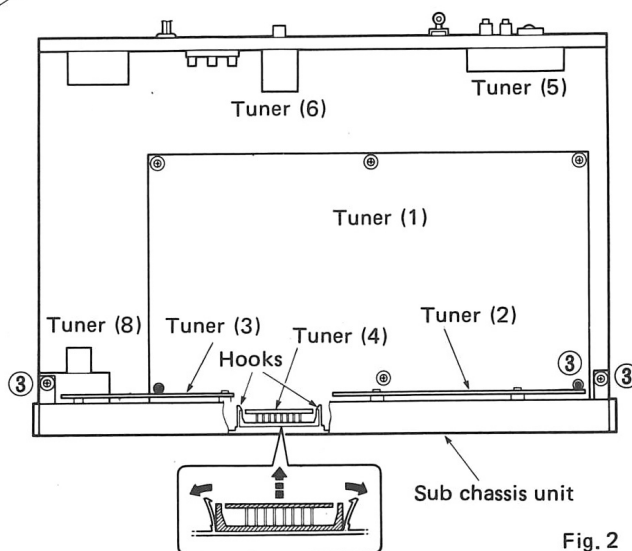

Fig. 2
Remove 2 screws (③) and 1 plastic revets (③) in fig. 2.
4. Tuner circuit board (4) removal
Release 2 hooks in fig. 2.